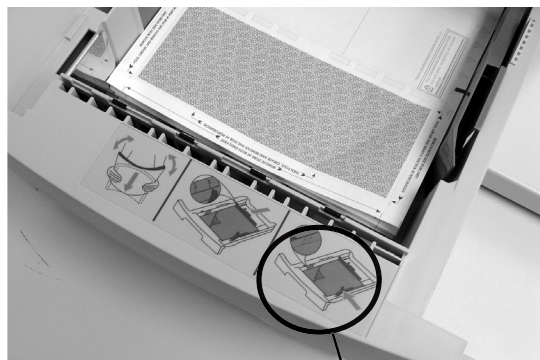

Fig. 15
5. Place pressure seal forms in printer paper tray. Paper should be loaded into the approved HP printers face down with the glue edge trailing. Locate the paper orientation guide on the printer and load accordingly (Fig. 15). The print side glue edge is considered the top of the document. Once forms are loaded perform an offline print test (see pg. 8) to make sure the printer and sealer are aligned properly. If the print test is satisfactory begin online operation.